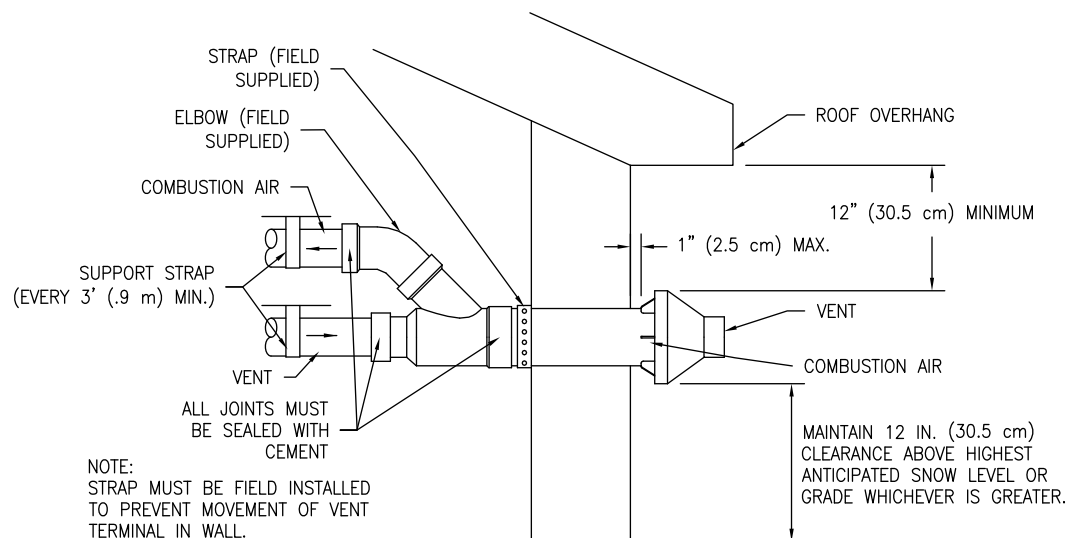

Figure 23. Concentric Vent Side Wall Attachment
- Secure assembly to structure as shown in Figure 23. Ensure clearances as shown in Figure 23.
- Cement heater combustion-air and vent pipes to concentric Y fitting termination assembly. See Figure 23 for proper pipe attachment.